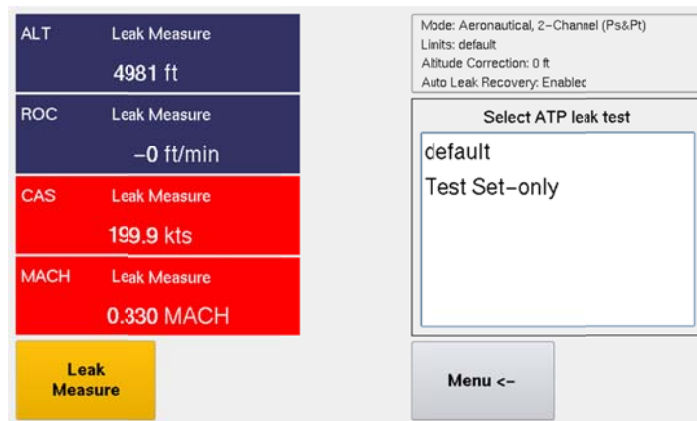
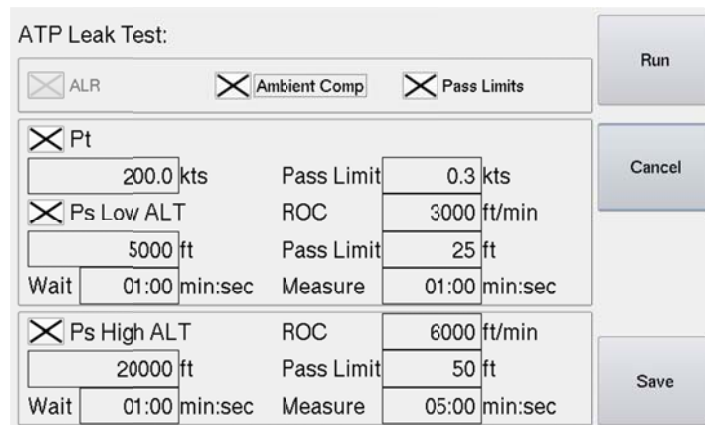

Figure 49 Selecting ATP Leak Test Profile
Figure 50 Leak Test Profile - Parameters Screen
- (4) There are **two methods** available for performing **Leak Testing** using the 1811NG:
- (b) Method-(2) **ATP Leak Test**: the 1811NG has an automated feature called ATP Leak Test which allows the user to setup a profile ahead of time with the following parameters: (see Figure 49 and Figure 50) This is much more efficient since the user can select or create the profile and select RUN to execute the automated leak test and return when the ATP Leak Test has completed to review the leak test results.